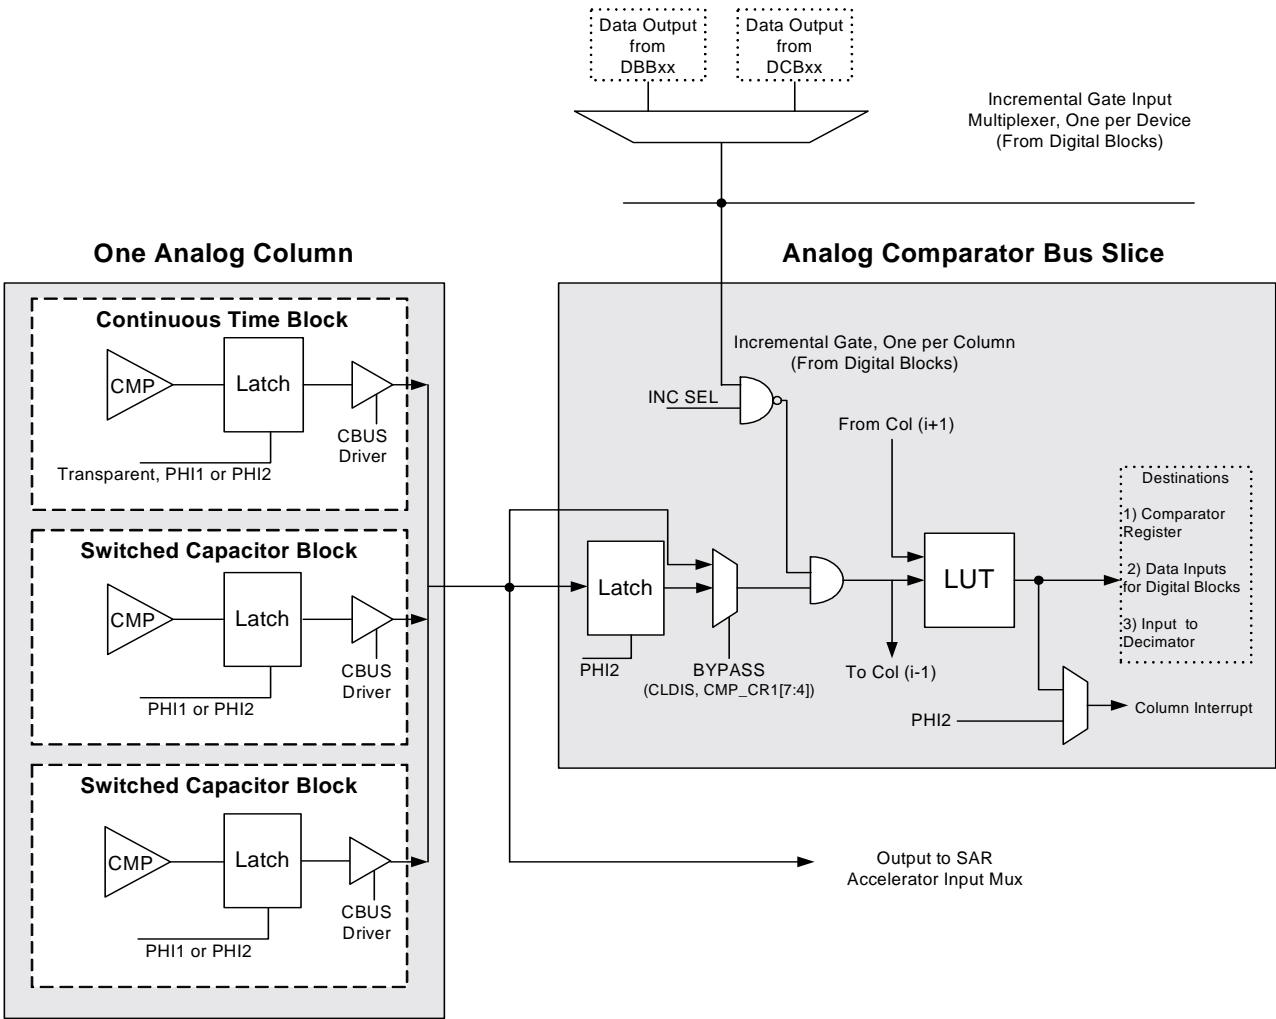

Figure 18-1. An Analog Comparator Bus Slice
Figure 18-1 displays the top-level diagram of the PSoC device's analog system.
Figure 18-1 illustrates one column of the comparator bus. In the Continuous Time (CT) analog blocks, the CPhase and CLatch bits of CT Block Control Register 2 determine whether the output signal on the comparator bus is latched
As shown in Figure 18-1, the Comparator bus output is gated by a signal from the digital blocks. This feature is used to precisely control the integration period of an incremental ADC. There are two direct connect digital block output options per row for driving the gate signal: DBBx1 and DCBx2. This selection may be made with the ICCKSEL bits in registers DEC_CR0 and DEC_CR1. This function may be enabled on a column-by-column basis by setting the IGEN bits in the DEC_CR0 register.